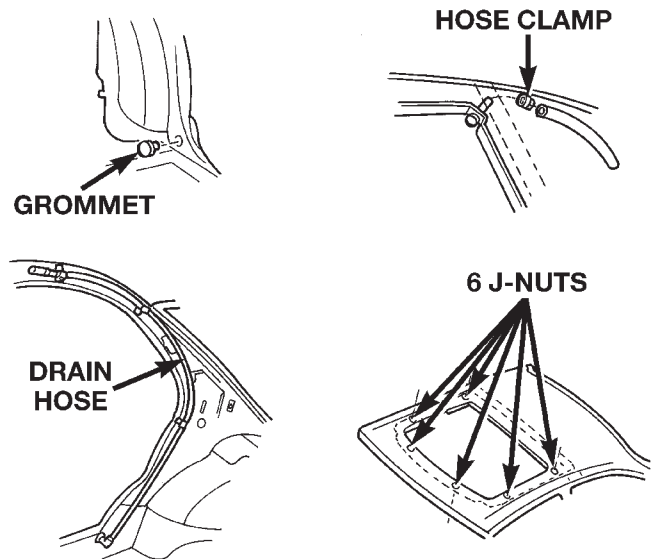

Fig. 7 Sunroof Housing Drain Hoses
- (1) Move glass panel to the fully closed position.
- (2) Remove sunroof opening trim lace. Refer to Sunroof Opening Trim Lace.
- (3) Disconnect the control switch and wire connector.
- (4) Remove headliner. Refer to Headlining Removal and Installation for proper procedures.
- (5) Disconnect the drain hose from the sunroof housing (Fig. 7).
- (6) Drain any liquid from hose connection, if necessary.
- (7) Attach new drain hose to old hose with tape that is to be replaced.
- (8) Work the old hose back and forth to loosen the sealer.
- (9) Pull the old hose out through the bottom and the new hose through.